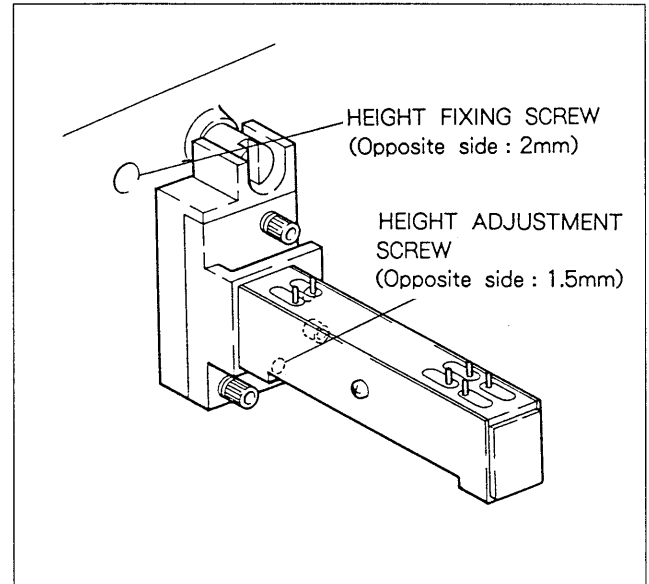

Fig. 9-9-1. Audio Erase Head Height Adjustment (1)
1. Loosen the height fixing screw shown in Fig. 9-9-1.